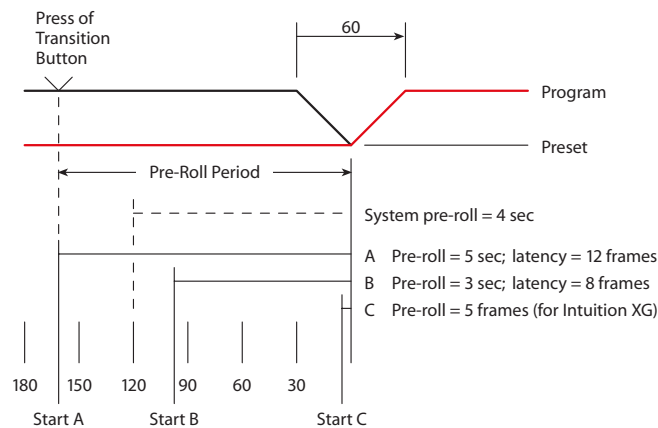

Figure A-2. Pre-Roll Timing
The pre-roll period is calculated in relation to the point at which new video appears on the program bus. In a V-fade, for example, that is in the middle of the transition. (See Figure A-2, following.)
- 1 A source's effective pre-roll period *elapses* at the first appearance of that source's video for that transition, and typically *not* at the start of the transition. See Figure A-2.